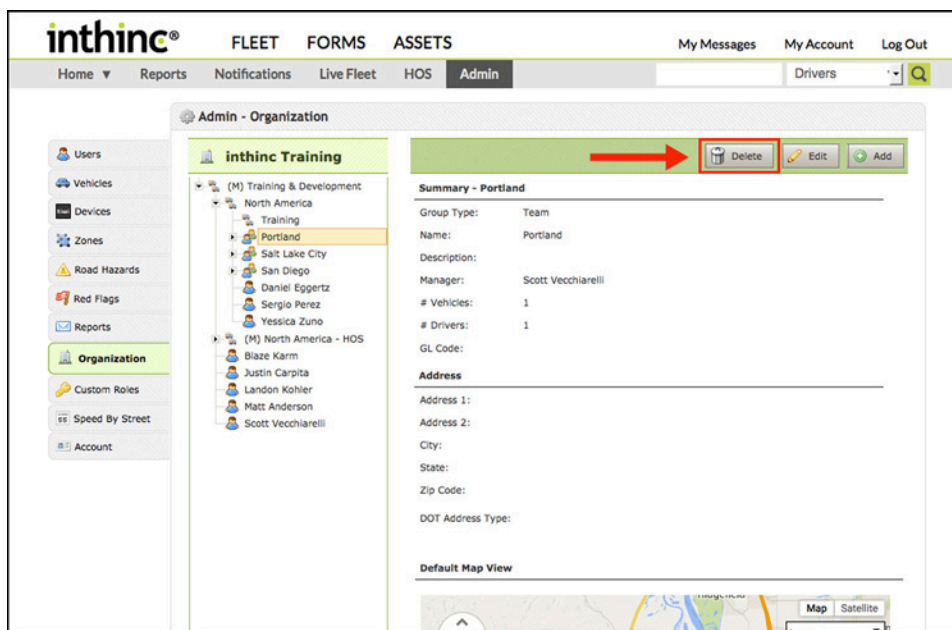

Figure 10 Admin > Organization page with Delete button highlighted
- 2 In the list, highlight the group or division name to be deleted. (*Figure 10*)